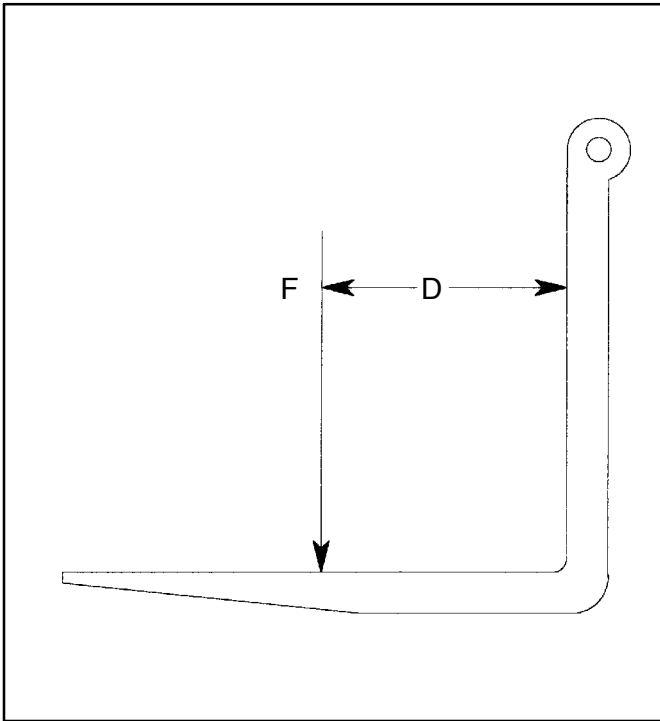

Fig. 1 Typical Fork
1. The test load F shall be applied to it at the applicable distance D from the front face of the fork arm shank (see Fig. 1).